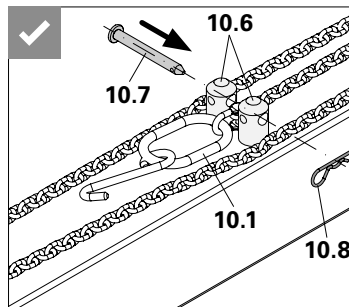

Fig. A3.05
→ Ring 1 (10.1) is positioned in front of both spigots. (Fig. A3.05)
7. Insert bolts (10.7) through the holes of both spigots. (Fig. A3.05)
8. Insert cotter pins (10.8) through the holes in the bolts. (Fig. A3.05)
Does the chain (10.9) lie between the two spigots (10.6)? (Fig. A3.05)